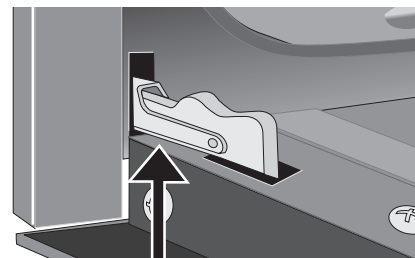
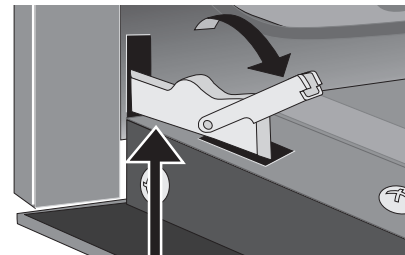

Figure 29: Door hinge locked
Figure 30: Unlocking door hinge
2. Pull up the lock located on each hinge support toward front of the oven until the lock stops. You may have to apply a little upward pressure on the lock to pull it up (Figure 29 and Figure 30).
4. Push the door hinge locks up toward and into the oven frame on both left and right oven door hinges to the locked position (Figure 29).